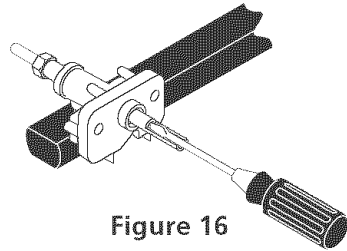

Figure 16
4. Adjust the "LOW" Setting of Surface Burner Valves (see Figure 16)